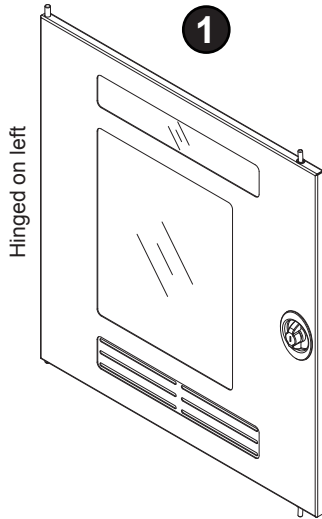

Figure 3B
1. Remove the door using the quick-release lever. **Figure 3B.**